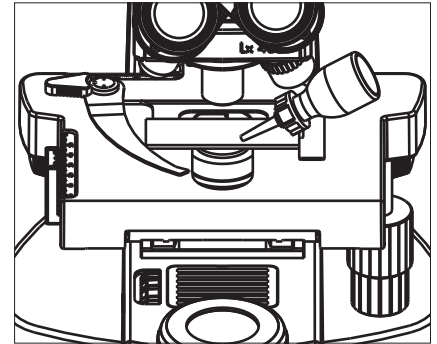

Fig. 7
7. Again pour a drop of immersion oil on slide as shown in Fig. 7